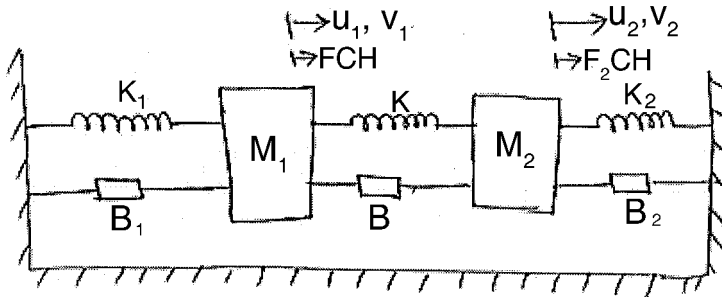

Fig.1
- a) Write the differential equation governing the mechanical system shown in fig. 1. Also draw the F-V and F-I analogy.